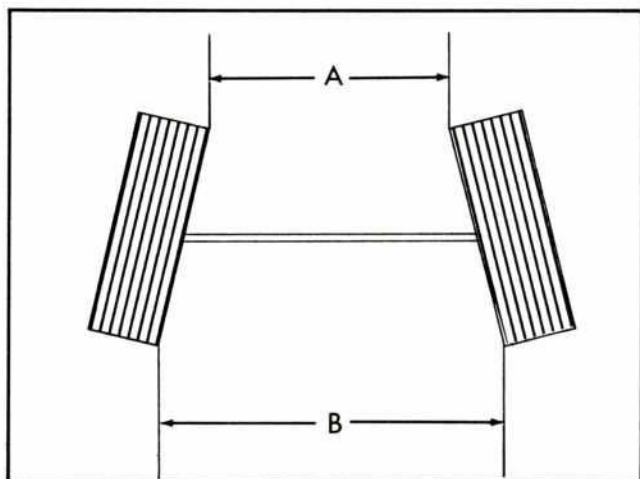

Figure 6—Measuring Toe-In
Check toe-in with the wheels in the straight ahead position. Measure the distance between the extreme front (A) and also between the extreme rear (B) of both front wheels (Fig. 6). Measure at an equal distance from the floor; approximately at the center of the spindle. The difference between these two measurements (B-A) is the amount the wheels toe-in or toe-out. If toe-in is not within specifications, do not attempt to adjust by bending suspension or steering linkage components.